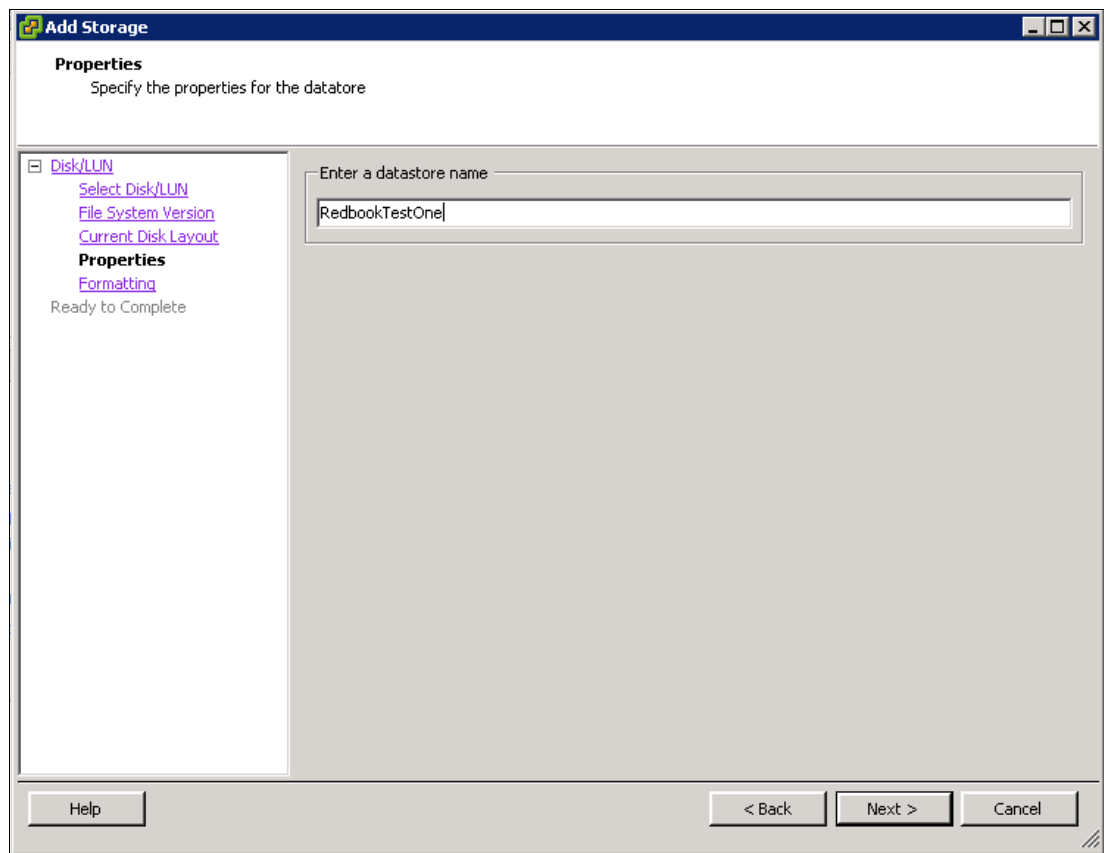

Figure 5-74 Enter a Datastore name
8. Click **Next** to move through the wizard. A summary window of the current disk layout is shown, followed by the option to name the new Datastore. In our example, we chose RedbookTest0ne, as shown in Figure 5-74.